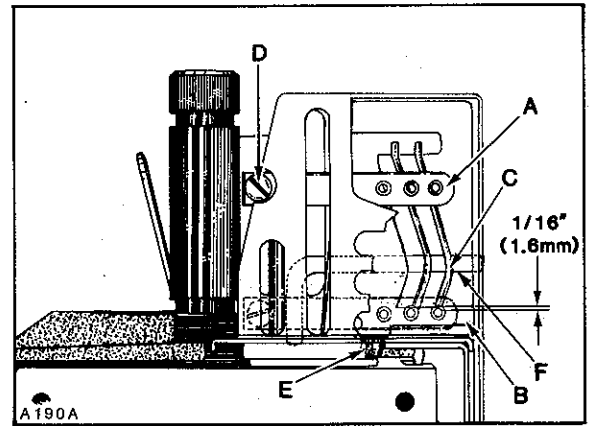

Fig.25
Needle bar eyelet (A, Fig. 25) should be set with its eyelets 1/16 inch (1.6mm) below strike-off (B) on needle thread take-up cam wire (C), as shown in Figure 25, with needle bar at **BOTTOM** of stroke.